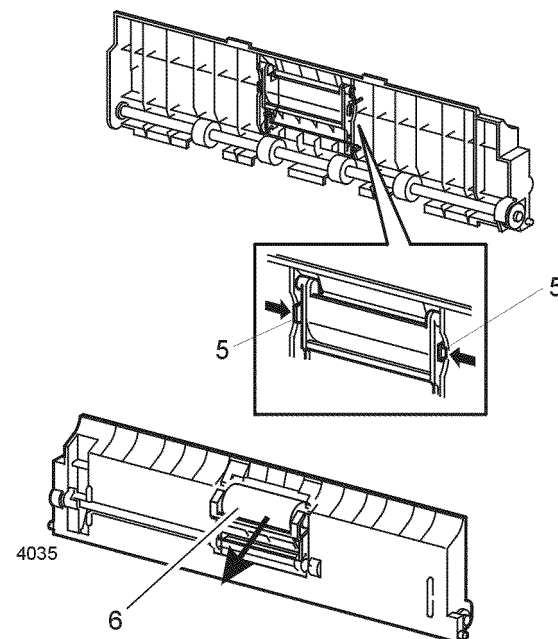

Figure 1 Retard Holder Assembly
5. From the rear, release the two locking tabs (Figure 1).
6. Remove the Retard Holder Assembly from the front (Figure 1).